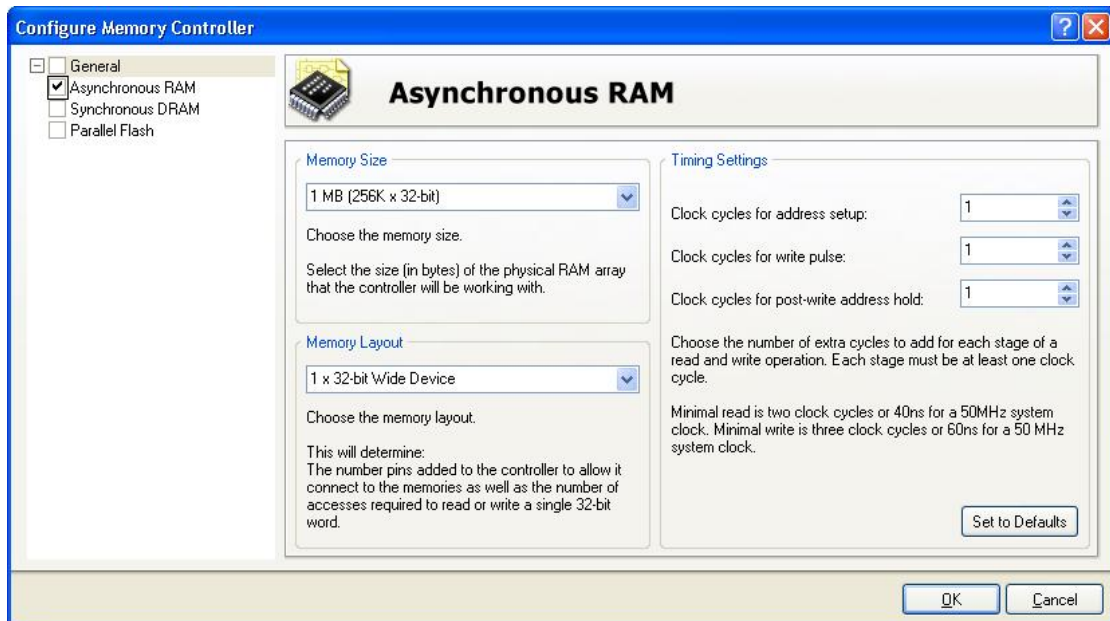

Figure 18. Configuring the wishbone shared memory controller U13
4. Right click U13 and select **Configure U13 (WB_SHARED_MEM_CTRL)...** to launch the configuration dialog. Configure U13 as it appears in Figure 18.